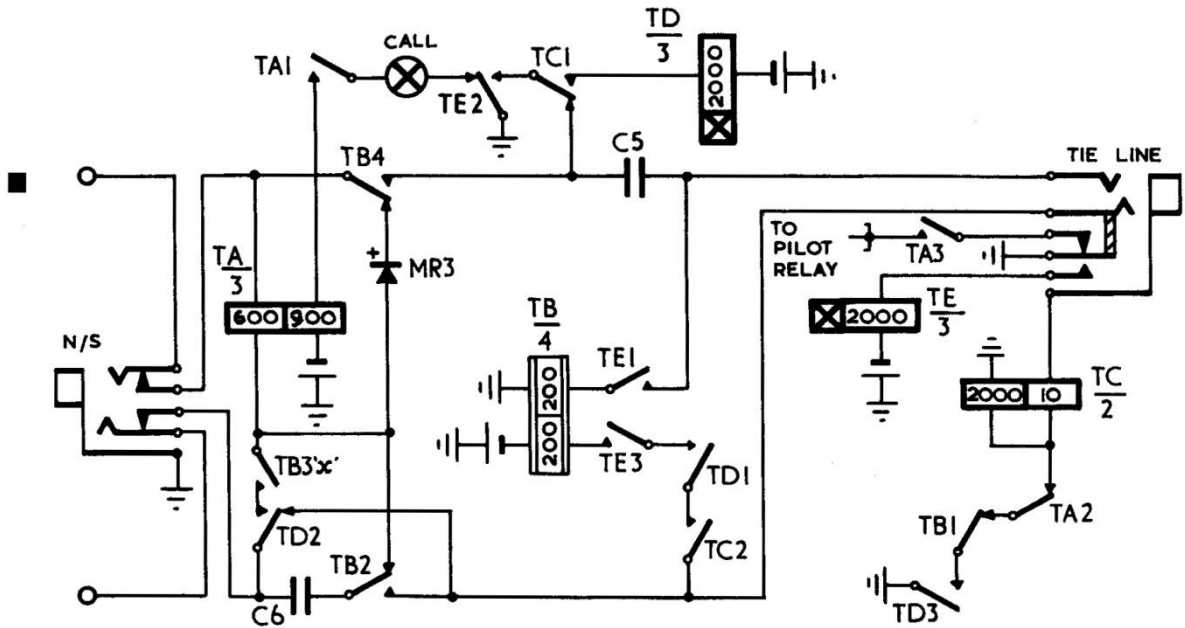

FIG. 19. TIE LINE CIRCUIT.
7.3 C.B. or Magneto Tie Line. C.B. or Magneto tie lines are connected to a special tie line circuit (Fig. 19). Exchange access over these tie lines is not given, as they are designed solely to allow extensions of one switchboard to be connected direct to extensions of the other switchboard.